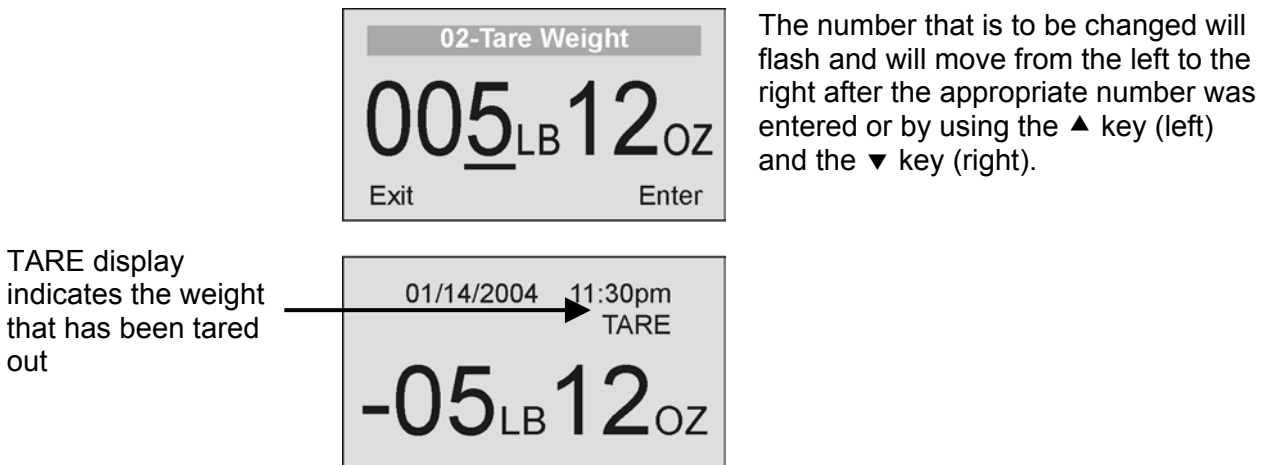

Figure 8. Tare Weight
The user can set a tare weight by pressing the TARE button (9) while there is a weight on the scale platform. The display will come to zero and TARE will be displayed to indicate there is a tare value in the memory (as displayed in Figure 8 above).